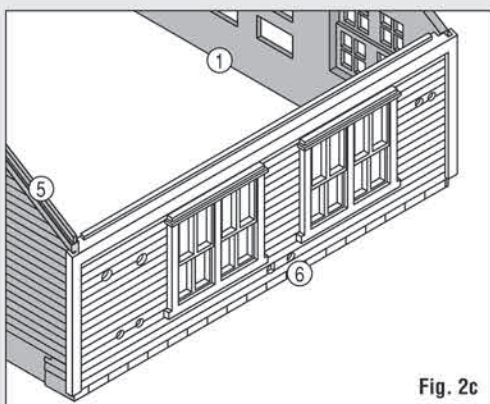

Fig. 2c
- Snap Wall ⑥ into place on Walls ⑤ and ① (**Fig. 2c**).